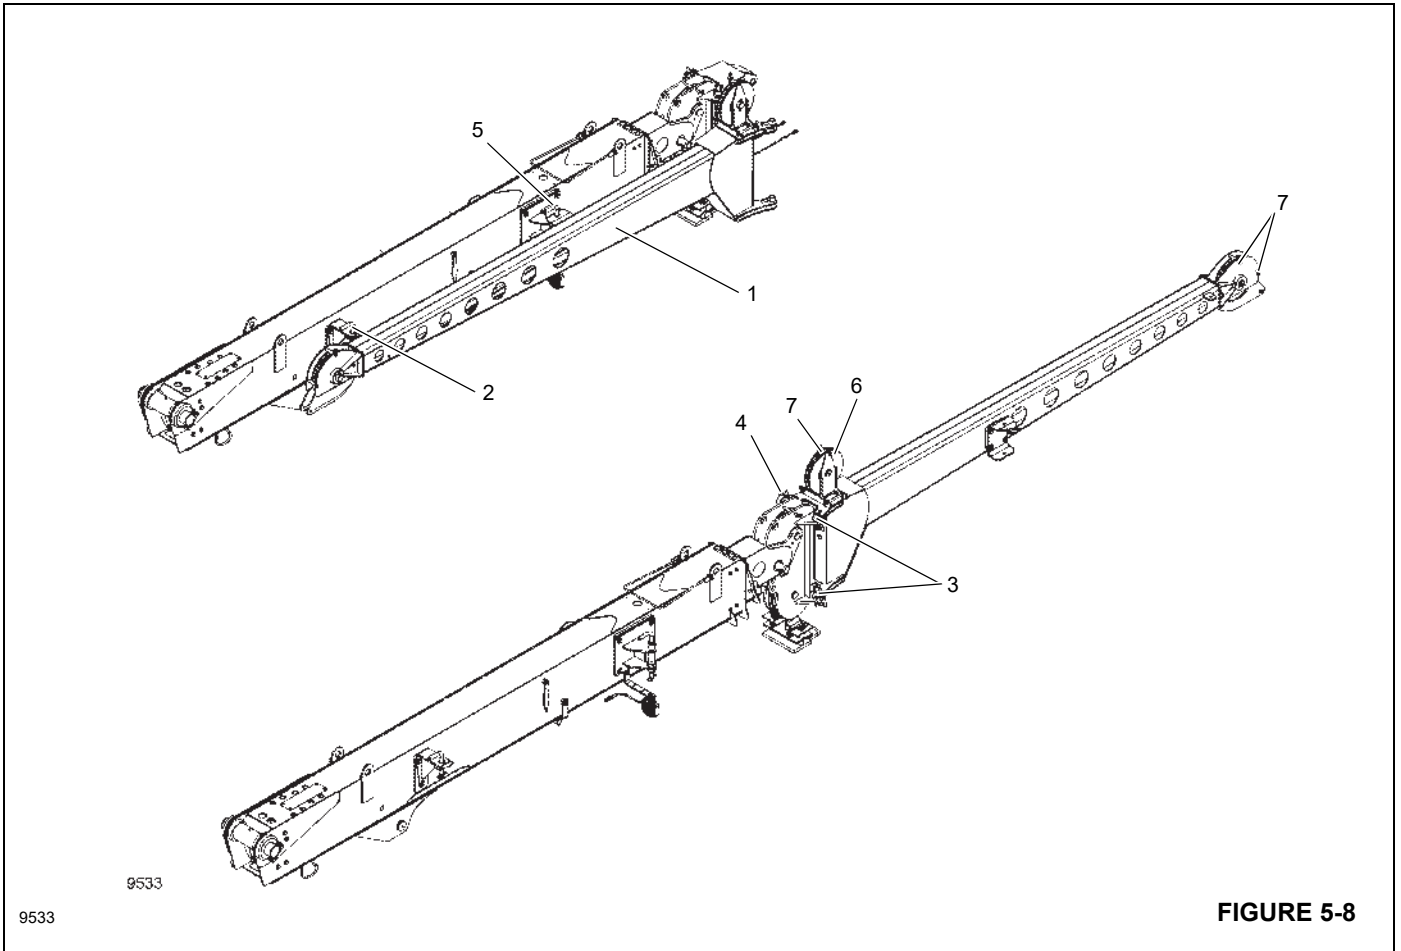

FIGURE 5-8
2. Install the boom extension (1, Figure 5-8) onto the boom nose.
- a. Remove the hair pin from the retaining pin (2) and remove the retaining pin from the rear bracket.
- b. Rotate the boom extension so the boom extension anchor fittings (3) engage the boom nose attachment fittings. Install the pins in the fittings and secure with the hair pins.
- c. Remove the hair pin from the retaining pin (5) and remove the retaining pin from the front bracket.
- d. Swing the boom extension around so the anchor fittings (4) engage the boom nose attachment fittings. Install the pins in the fittings and secure with the hair pins.
3. Rotate the mast sheave (6) up and secure with a retaining pin and hair pin.
4. Install the wire rope over the mast sheave and boom extension sheave removing the wire rope retaining pins (7) and hair pins.